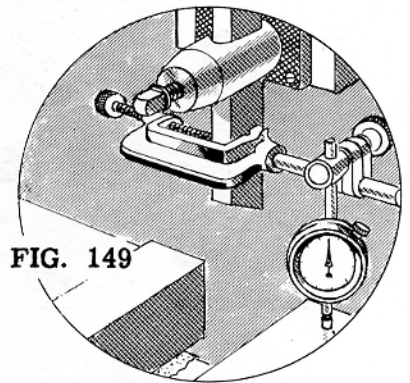

FIG. 149
- NOTE:** Dial indicators are made with two types of contact shafts, one parallel and the other perpendicular to the face of the dial. Figures 149 and 152 illustrate the arrangement for both types of indicators.